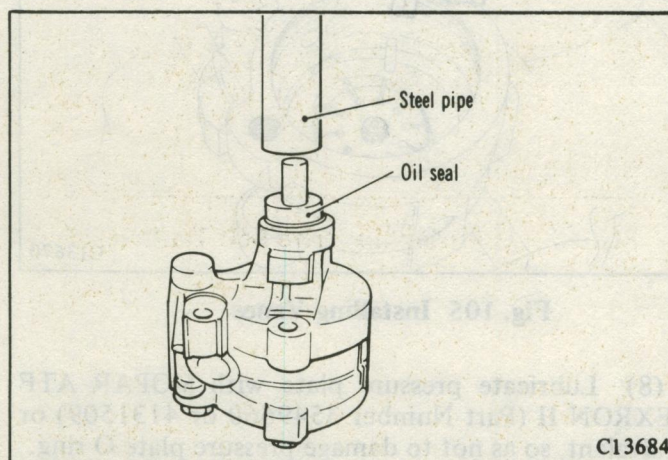

Fig. 111 Installing the Drive Shaft Seal
(4) Apply special seal lubricant No. 1050169 or equivalent to the sealing lip of a new seal, then install seal over pump shaft with metal side of seal outboard.
(5) Slide suitable tool over pump shaft, then drive seal into pump body (Fig. 111)